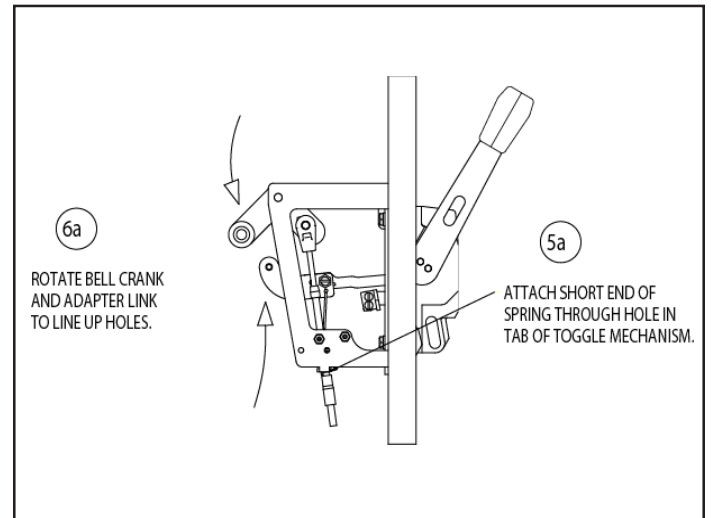

Fig. 1-5 Assembly of Spring to Toggle Mechanism
5. Hook the shorter end of the spring into the tab on the lower portion of the toggle mechanism. See Fig. 1-5 for location.
6. Align adaptor link with bell crank. Attach adapter link to bell crank using the shoulder bolt and nut. Fasten securely ... Do not Overtighten. See Fig. 1-5 & 1-6.